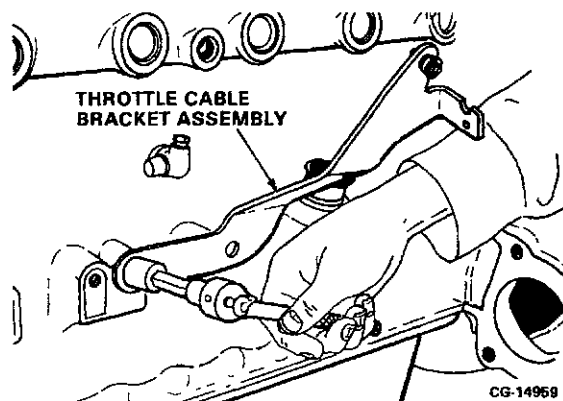

Figure 11.31. Remove the Throttle
3. Remove the throttle cable bracket assembly from the crankcase. The bolt for the supply pump inlet tube assembly fuel block/throttle cable bracket was removed at step 8 (Page 15). Refer to Figure 11.31.